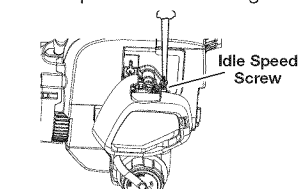

Fig. 23
The idle speed of the engine is adjustable. An idle adjustment screw is between the air filter cover and the engine starter housing (Fig. 23).
2. Release the throttle trigger and let the engine idle. If the engine stops, insert a small Phillips screwdriver into the idle adjustment screw (Fig. 23). Turn the idle speed screw clockwise 1/8 of a turn at a time (as needed) until the engine idles smoothly.